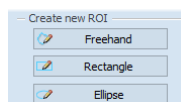

Figure 363 – Quantitative analysis drawing tools in the QA tool tab
- Select an appropriate tool for the ROI definition in the **Create new ROI** section of the **QA** tool (see Figure 363).